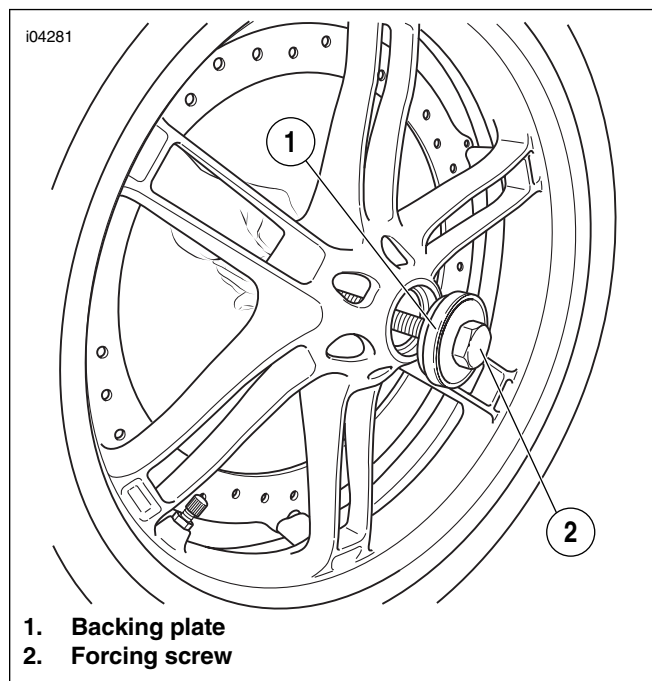

Figure 2-13. Install the Backing Plate (B-43993-12) and Forcing Screw
1. See Figure 2-13. Install the Backing Plate (Part No. B-43993-11) onto the long forcing screw from the Wheel Bearing Installer/Remover (Part No. HD-44060), with the smaller diameter toward the wheel hub. Insert the forcing screw and backing plate into the wheel hub